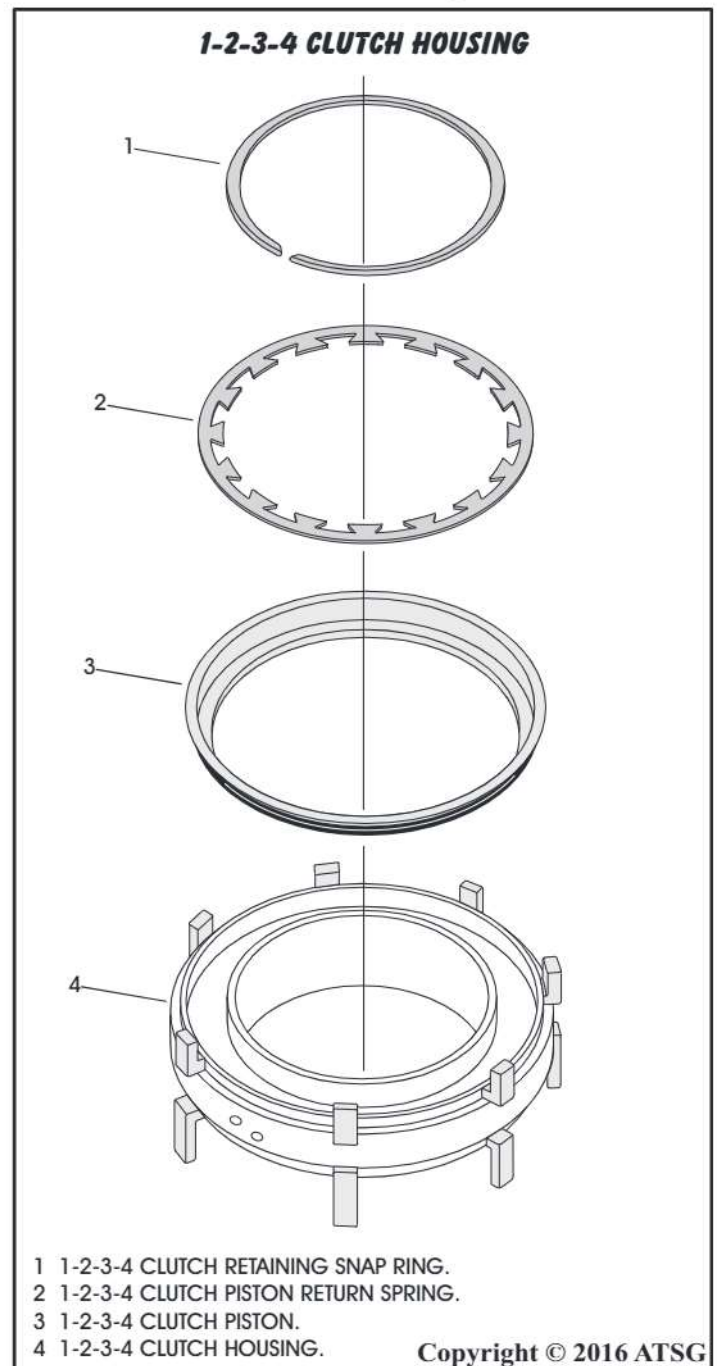

Figure 123
4. Remove the 1-2-3-4 clutch spring retaining snap ring shown in Figure 123.
5. Remove the 1-2-3-4 clutch piston return spring shown in Figure 123.
6. Remove and discard the 1-2-3-4 piston shown in Figure 123.